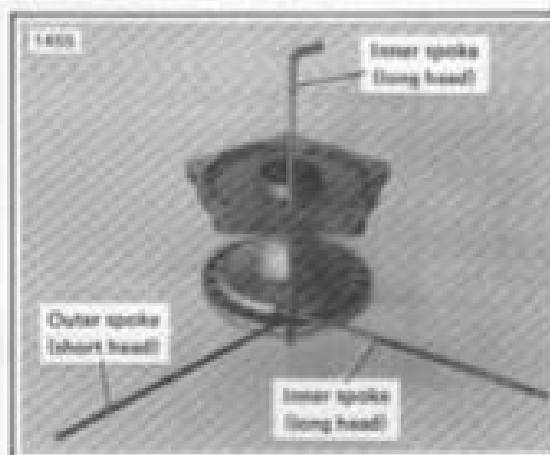

Figure 2-14A. Lacing 19" Wheel
2. See Figure 2-14A. Place hub on bench either side up. Insert one outer spoke (short head) into any bottom flange hole and swing it clockwise. Insert an inner spoke (long head) in the next hole to the left of the outer spoke. Swing the inner spoke counter-clockwise over the outer spoke.
3. See Figure 2-14A. Insert an inner spoke into the hole on the top flange that directly bisects the two spokes in the bottom flange. Insert all remaining spokes in both hub flanges alternating the inner and outer spokes.